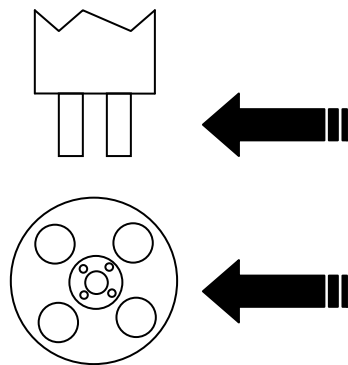

Fig. 3.3 Sensor tip orientation
Insertion sensors and, if applicable, immersion sensors, should be oriented to the process flow so that the two dark-colored optical fingers (detectors) are parallel with the flow. See Fig. 3.3. To orient insertion sensors:
3. Loosen the two setscrews on either side of the rotating collar (see Fig. 3.3).
5. While maintaining proper tip orientation, rotate the sensor flange until it is aligned with the ball valve flange (see Fig. 3.3).